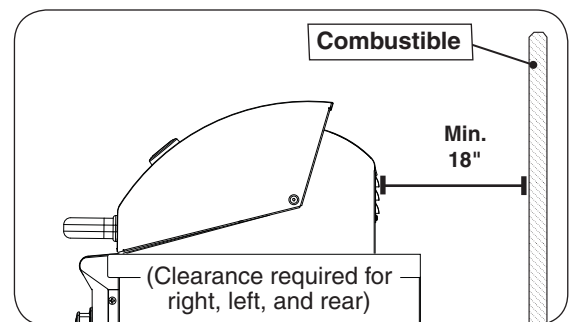

Fig. 10-4 Clearance 'C' Diagram
- The grill must have a minimum of 18" right, left, and rear clearance from any combustible wall (see Fig. 10-4).